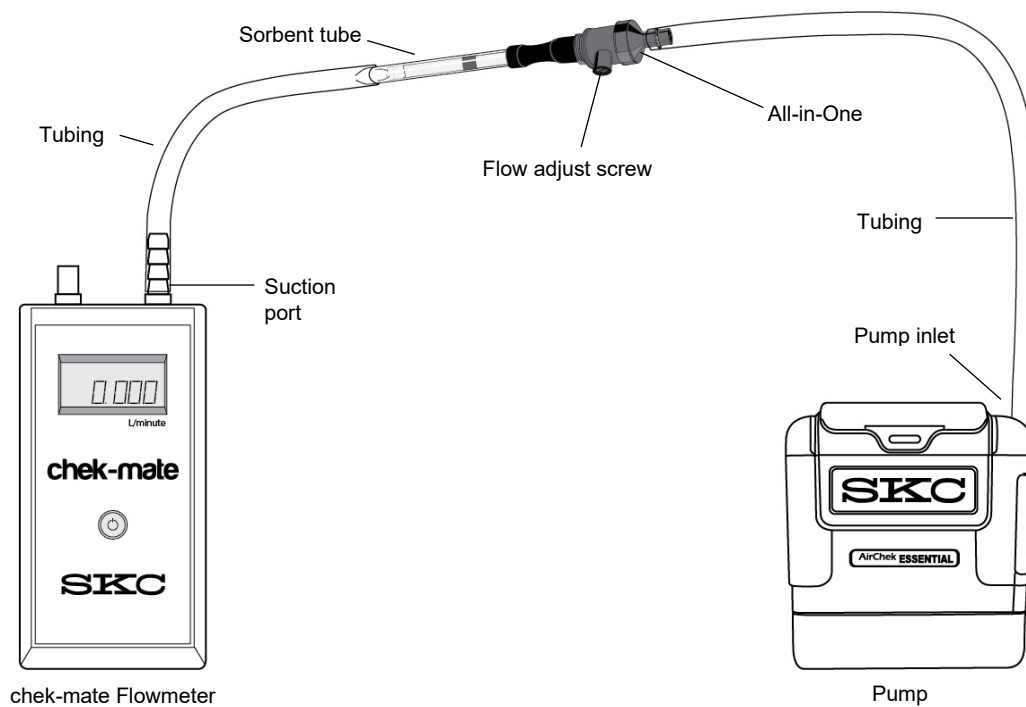

Figure 4. Flow Rate Verification Train (5 to 500 ml/min) for Single Tube
1. On the tube holder, insert an opened representative tube (arrow on tube pointing toward the pump) into the rubber sleeve on the port. *See Figure 4.*
Set up the flow rate verification train as shown in Figures 4 and 5, connecting the flowmeter to the single sorbent tube or the first of multiple sorbent tubes.